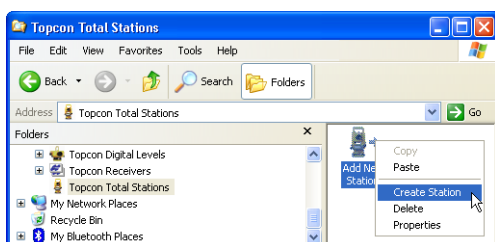

Figure 2-46. Creating a New Station in Windows Explorer
1. Open Windows Explorer. The *Topcon Total Stations* dialog box displays (Figure 2-46). To add a new device, right-click on the *Add New Station* icon, and select **Create Station** on the pop-up menu.